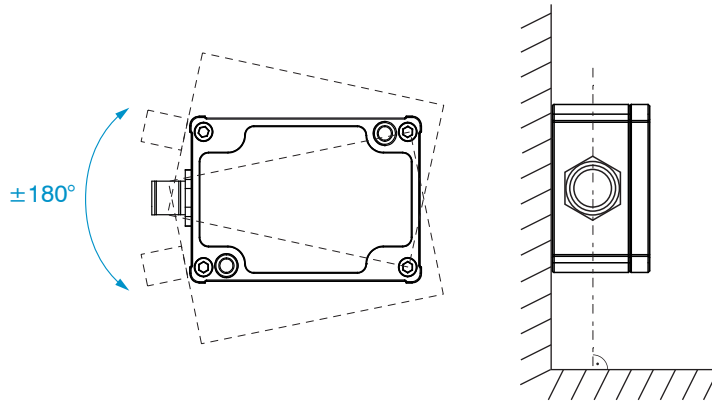

Fig. 2 Zero position (angle value 0°); measuring angle $\pm 180^\circ$
- **i** For precise measurements, position the sensor without tilting, see Fig. 2.